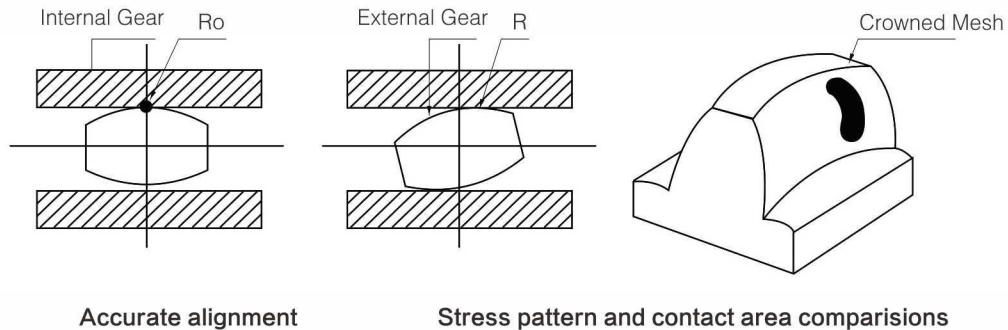

Fig.3
- When there is no displacement deviation in the working condition, and there is no deviation in the coupling installation, the drum shaped tooth center of the inner ring gear ( $R_o$ ) Contact with the outer gear sleeve, and when there is eccentricity and deflection angle, contact at a certain distance ( $R$ ) from the center point of the tooth profile. (see Fig.3)